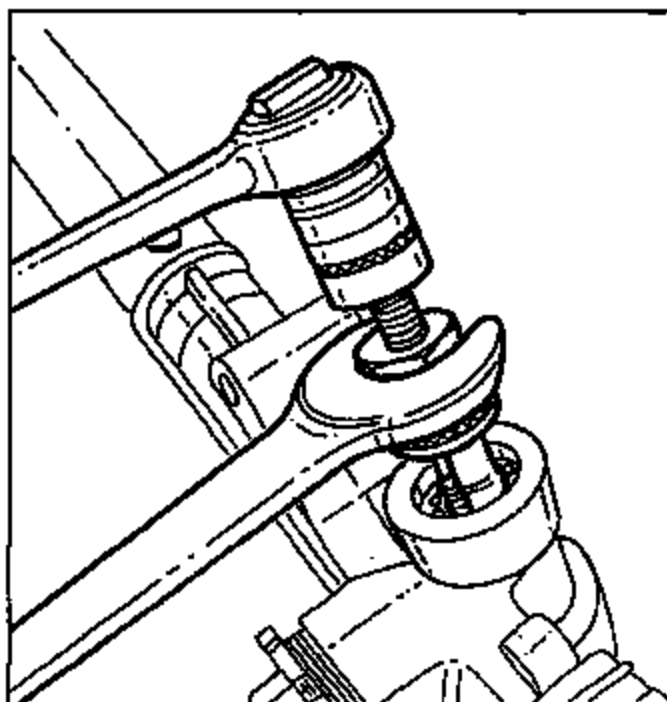

Figure 5
However, please be advised that the 2-legged puller cage portion (CO-502042) of the complete tool is currently available and can be ordered from Kent-Moore at this time. See Figure 5 in Recall # 03062 for an illustration of the 2-legged puller cage (CO-502042).
- STEP 8** If possible, hold the center nut with a wrench while turning the forcing screw (See Fig. 5)